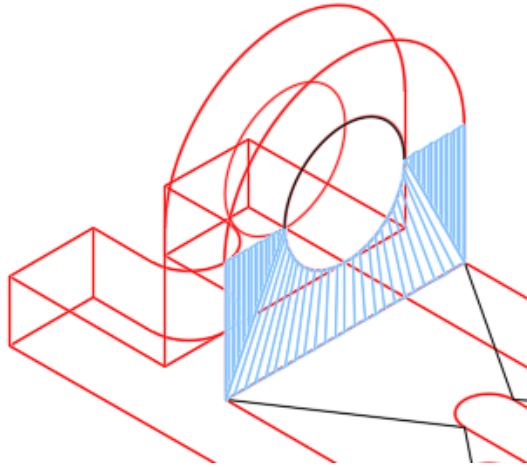

Figure Step 20
Step 20 On layer: Surface 1, insert the ruled surfaces as shown in the figure. (Figure Step 20)